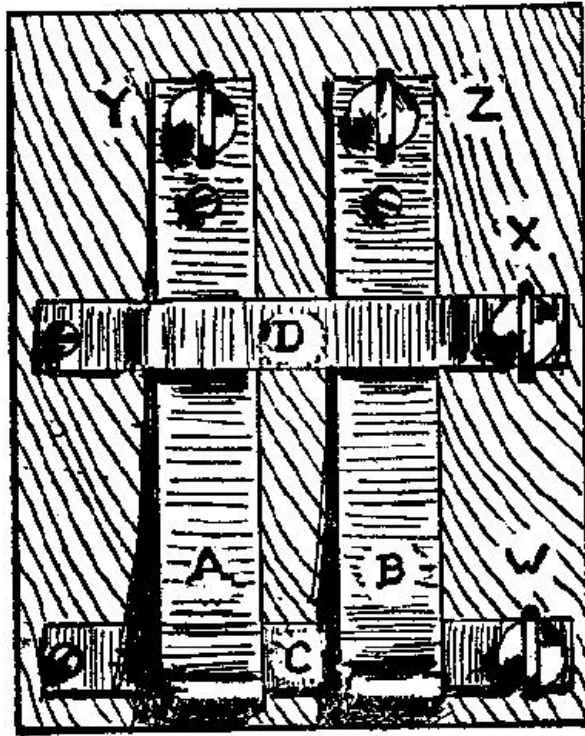

Fig. 103.
**225. Current Reverser.** Fig. 103. The *base* is  $5 \times 4 \times \frac{7}{8}$  in. To this are fastened four *metal straps*, *A*, *B*, *C*, and *D*. These may be made of brass, aluminum, or even of tin. If made of tin, use one thickness of metal for *C* and *D*, and two thicknesses for *A* and *B*. Each strap has two  $\frac{1}{8}$  in. holes punched in it, their positions being shown by the screw-heads and screw-eye binding-posts. [Pg 111]